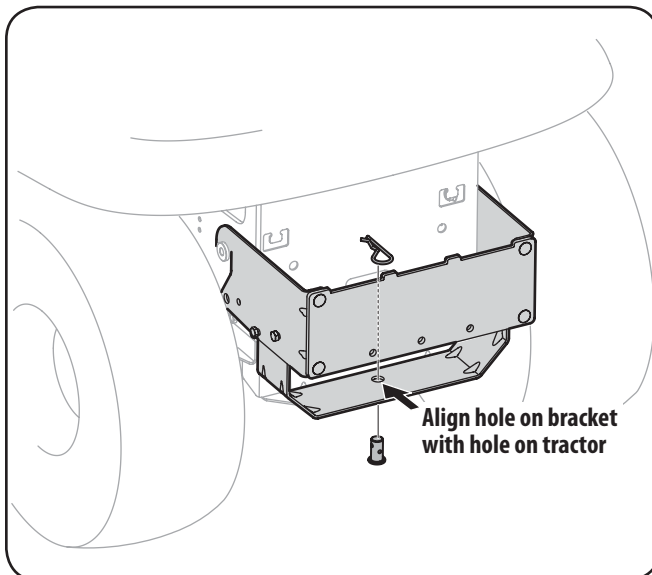

Figure 3-6
2. Install the larger clevis pin included with this kit into the tractor's hitch and secure with the included hairpin clip. See Fig. 3-6.